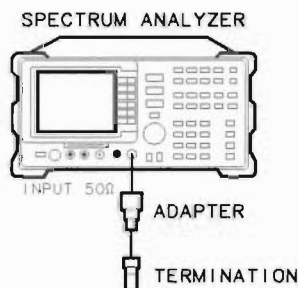

Figure 2-82. Residual Response Test Setup for Option 130
1. Connect the termination to the spectrum analyzer input as shown in Figure 2-82.
4. Connect the 300 MHz CAL OUT to the RF INPUT as shown in Figure 2-82
10. Reconnect the termination to the spectrum analyzer input as shown in Figure 2-82.